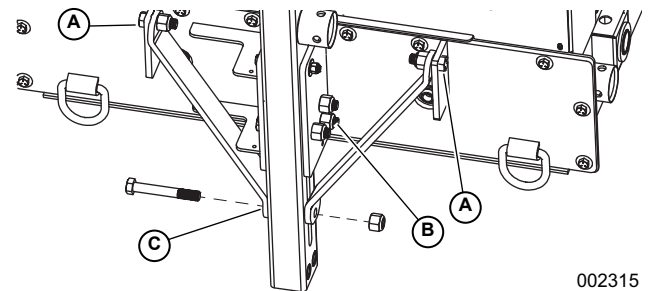

Figure 2-7. Remove Lower Bolt
3. See Figure 2-7. Loosen but do not remove the nylon lock nuts on bolts A and B.
4. Remove the lower bolt and nylon lock nut securing the tongue braces to the tongue (C).